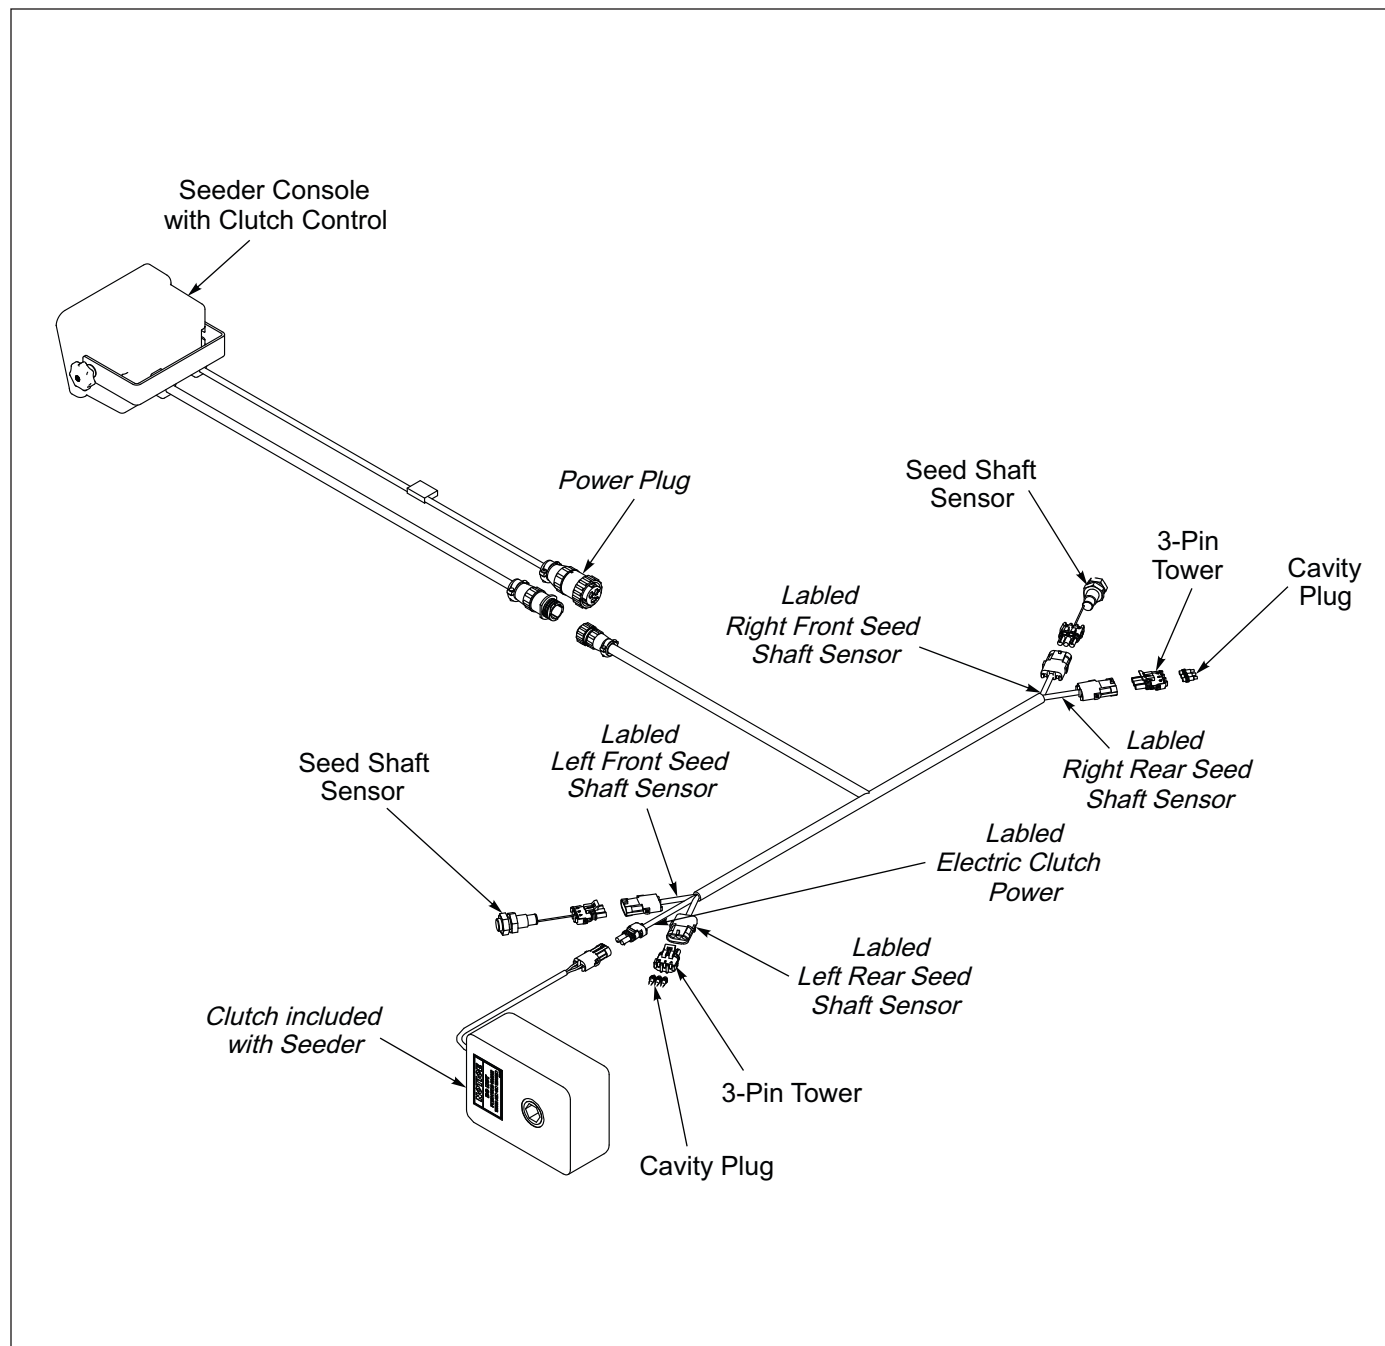

Figure 2-41: Console w/Clutch Control Electrical Schematic
5. On left side connect plug labeled "Electric Clutch Power" to the Electric Clutch lead. **See Figure 2-41.**